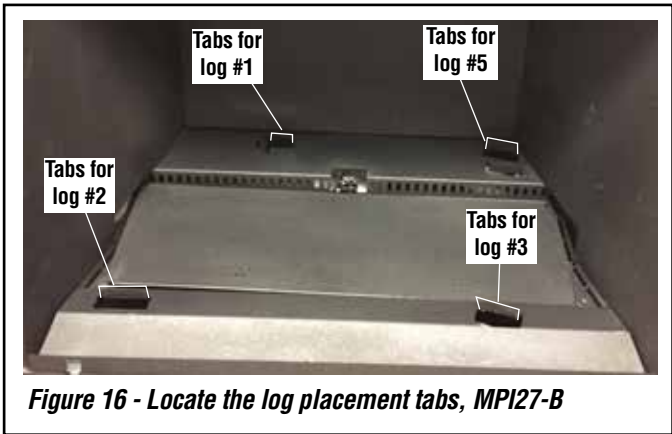

Figure 16 - Locate the log placement tabs, MPI27-B
- NOTE:** Ensure the left front log (1) and right front log (2) are correctly installed on the burner positioning tabs.
- 1. If necessary, remove the glass door (**Page 30**). Locate and bend up Burner Locating Tabs (**Figure 16**).
- 2. Locate the log placement tabs (**Figure 16**). Place embers and other media.
3. Align the notches in the bottom of the rear log (1) with the left rear locating tabs (see **Figures 16 and 17**).
4. Position the left front log (2) on the left front log tab and the left burner locating tab (See **Figures 16 and 18**).
5. Position the right front log (3) on the right front locating tab and right burner locating tab (See **Figures 16 and 19**).
7. Position the right cross log (5) over the right rear locating tab (see **Figures 16 and 20**).